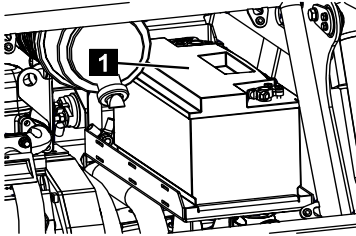

Fig. 222
4. Connect the red lead to the battery's positive terminal (Fig.222/1).